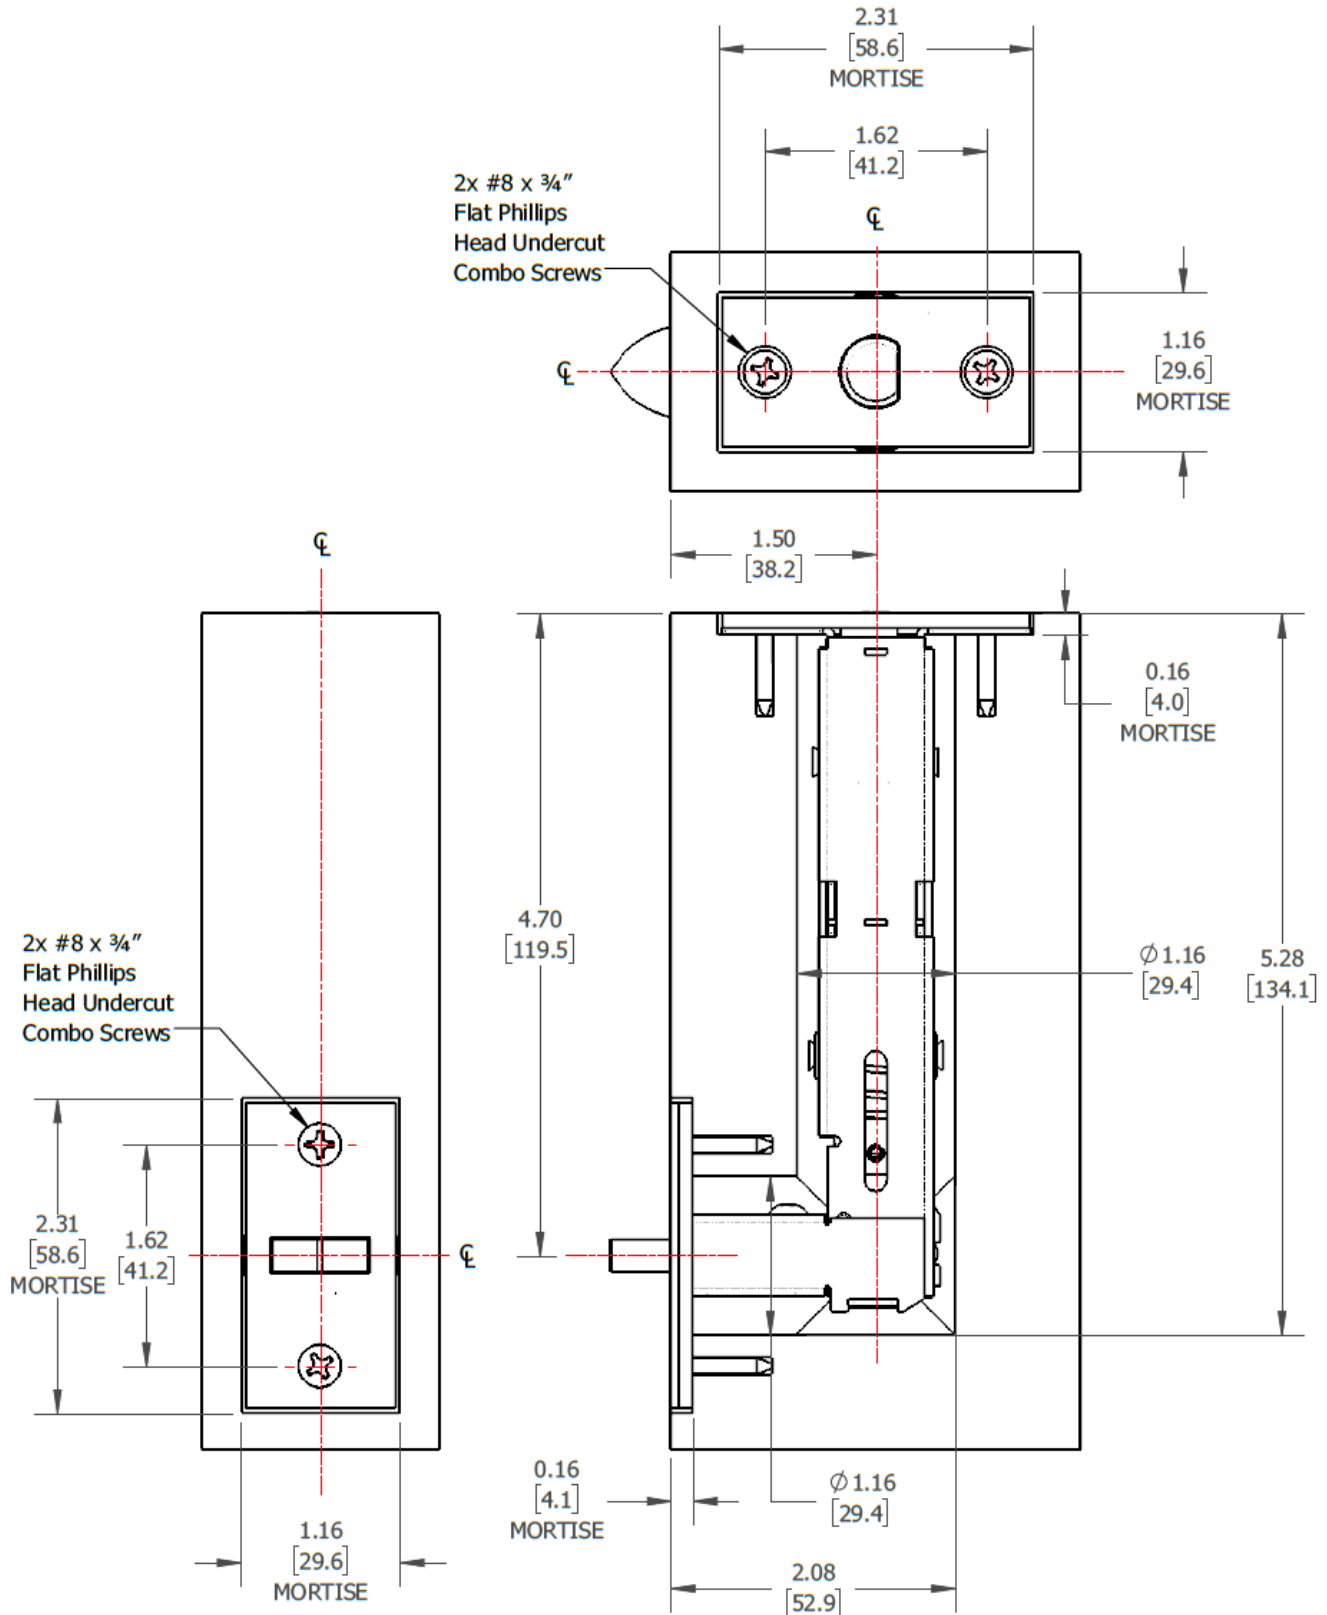

Figure 1: 296S & 296D Universal Automatic Flush Bolts for Metal & Wood Doors
2. Prep the Inactive Door using Figure 1